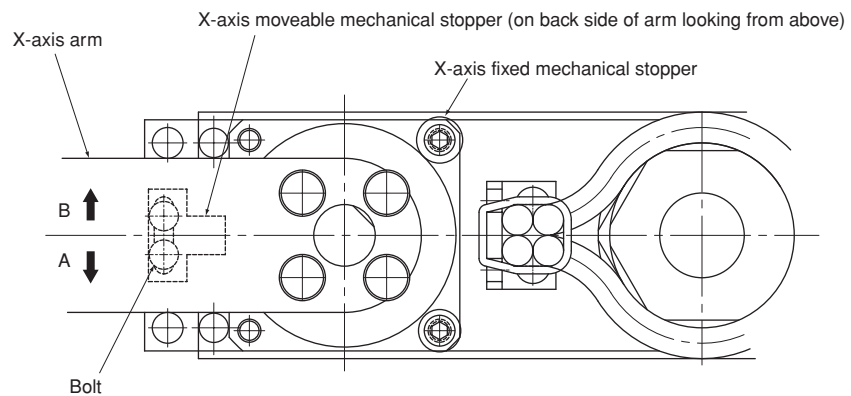

Fig. 4-9 Adjustment of X-axis machine reference
- 8) Using a hexagon wrench, loosen the two bolts fixing the X-axis movable mechanical stopper. (See Fig. 4-9.)